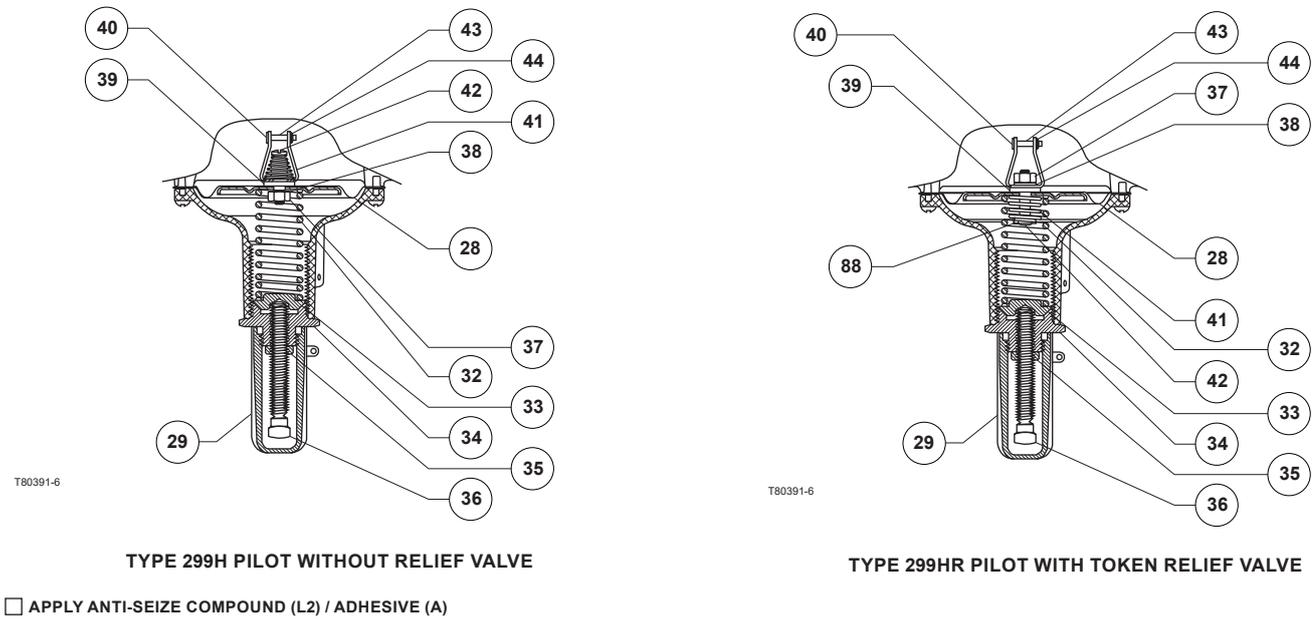

Figure 2. 299H Series Pilot Assemblies
Keys are referenced in Figure 2. The only adjustment on a 299H Series regulator is the reduced pressure setting of the pilot control spring (key 32). Remove the closing cap (key 29) and turn the adjusting screw (key 36). Turning the adjusting screw clockwise into the spring case increases the controlled or reduced pressure setting. Turning the screw counterclockwise decreases the reduced pressure setting. Always tighten the locknut (key 35) and replace the closing cap after making adjustments.